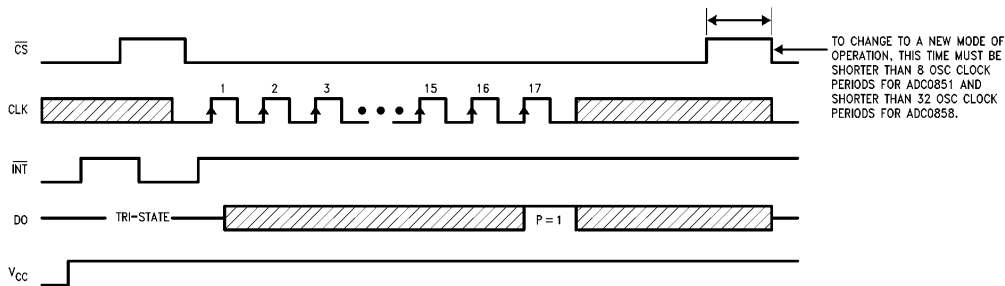

FIGURE 2. Read Power Flag after Power Up ADC0851/ADC0858
Upon power up, the device is automatically configured in the watchdog mode. The status of the power flag bit, P, provides power failure indication to the microprocessor. The timing diagram of Figure 2 shows the sequence of events.
First consider the case of initial power up. After power is applied, \overline{CS} should be brought high. Bringing \overline{CS} high causes the \overline{INT} pin to go low, which signals the microprocessor that a failure has occurred. The microprocessor can then interrogate the device as to the type of failure by bringing \overline{CS} low. When \overline{CS} goes low, it resets the \overline{INT} pin to high and the output data is read starting at the first rising edge of clock (CLK) after \overline{CS} has gone low. Since this is the first read cycle after power up, the power flag bit, P, is set high and appears at the rising edge of the seventeenth clock cycle after \overline{CS} low is detected (Figure 2). After the power flag is read by the microprocessor, \overline{CS} is taken high. Note that the duration for which \overline{CS} remains high (after the power flag is read) must be less than eight oscillator clock periods for ADC0851 and less than thirty-two oscillator clock periods for ADC0858. This is required to interrupt the device from watchdog mode so that when \overline{CS} goes low, the device reads a valid data input (DI) word and configures to a new mode.